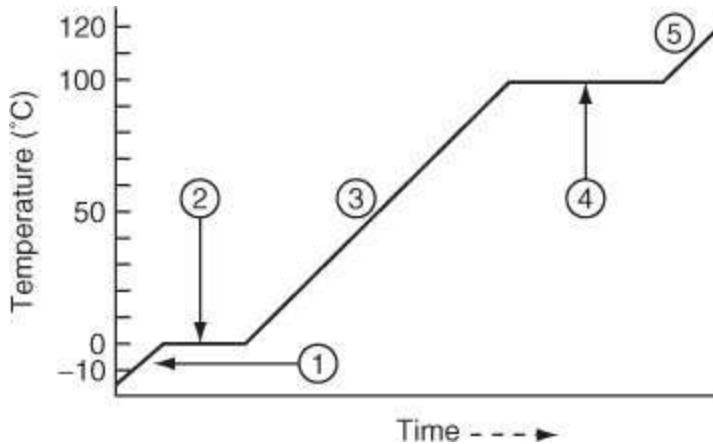

Figure P9.2.26
****9.2.26.** Figure P9.2.26 shows a pure substance that is heated by a constant source of heat supply.